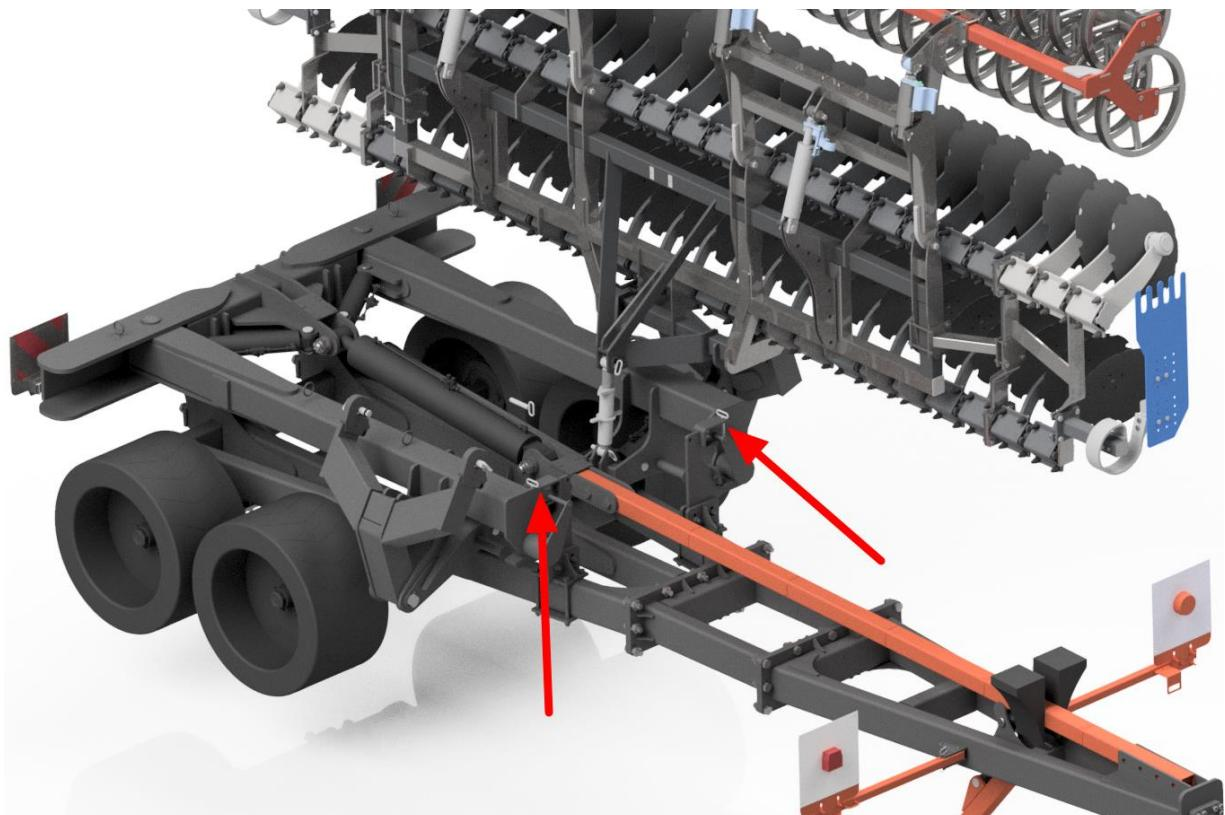

Figure 33 Location of pins preventing the machine wings from unfolding.
2. Pull out the pins securing the machine wings against self-extension from the buffers (fig. 33).